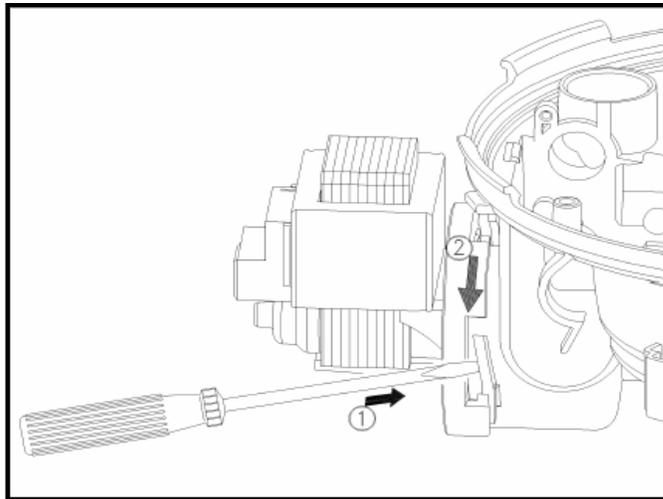

Figure 5-33: Drain Pump Retaining Clip
4. Open the safety retainer clip with a screwdriver, Fig. 5-33, Pos. 1.
5. Turn the pump clockwise and pull it from its holder, Fig. 5-33, Pos. 2.